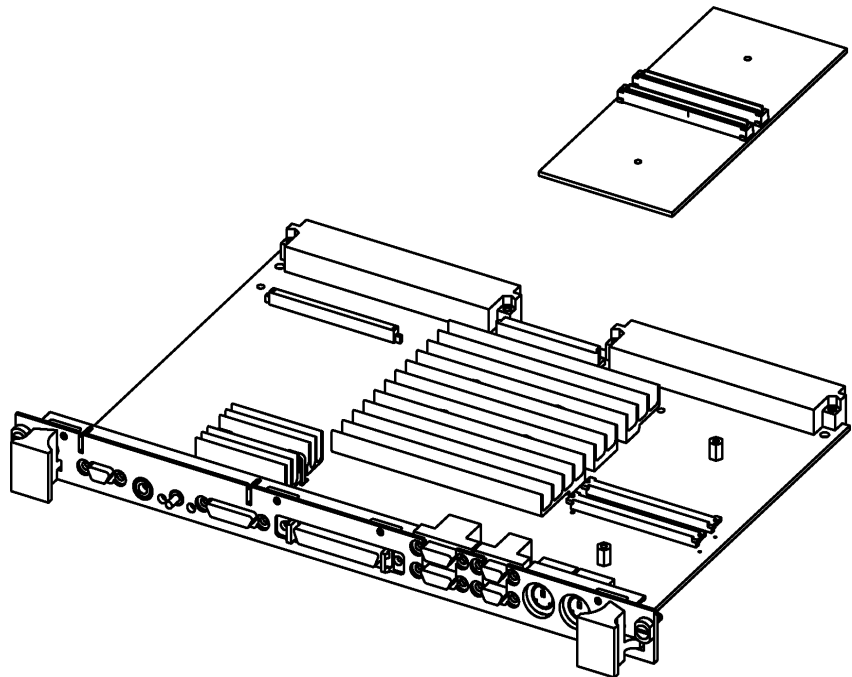

Figure 4-2 Installing RAM Cards
Up to four RAM cards may be stacked. Use these steps and Figure 4-2 to install the RAM cards:
- 2 If the Model 744 has RAM card(s) already installed, remove the screws that secure the topmost RAM card, and then install the new standoffs that came with your RAM card onto the topmost card (see Figure 4-2).
- 3 Hold the RAM card you are installing so that the chamfered corner is the upper-left corner (see Figure 4-2).